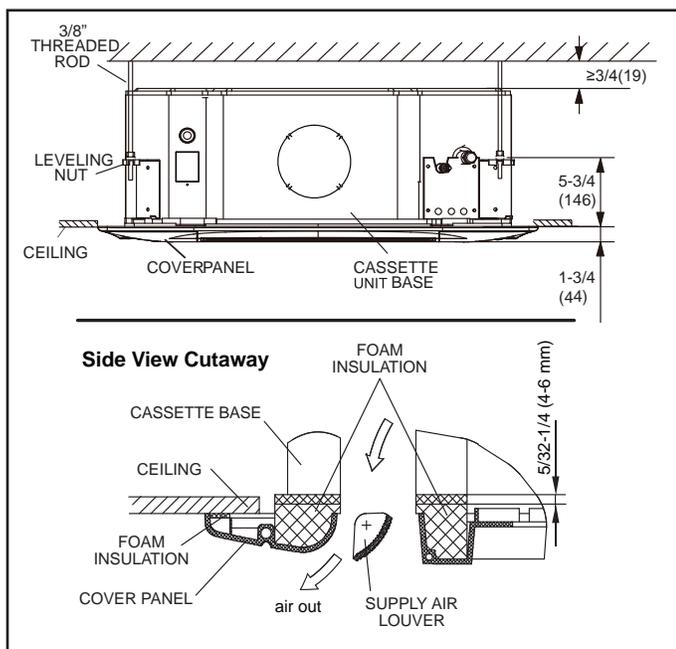

Figure 23. Cover Panel in Place
10. Continue to tighten the cover panel securing screws until the insulation between the cover panel and the cassette base has been compressed to approximately 1/4". The cover panel must form a seal with the ceiling and the cassette base around the entire perimeter of the unit. See Figure 23.